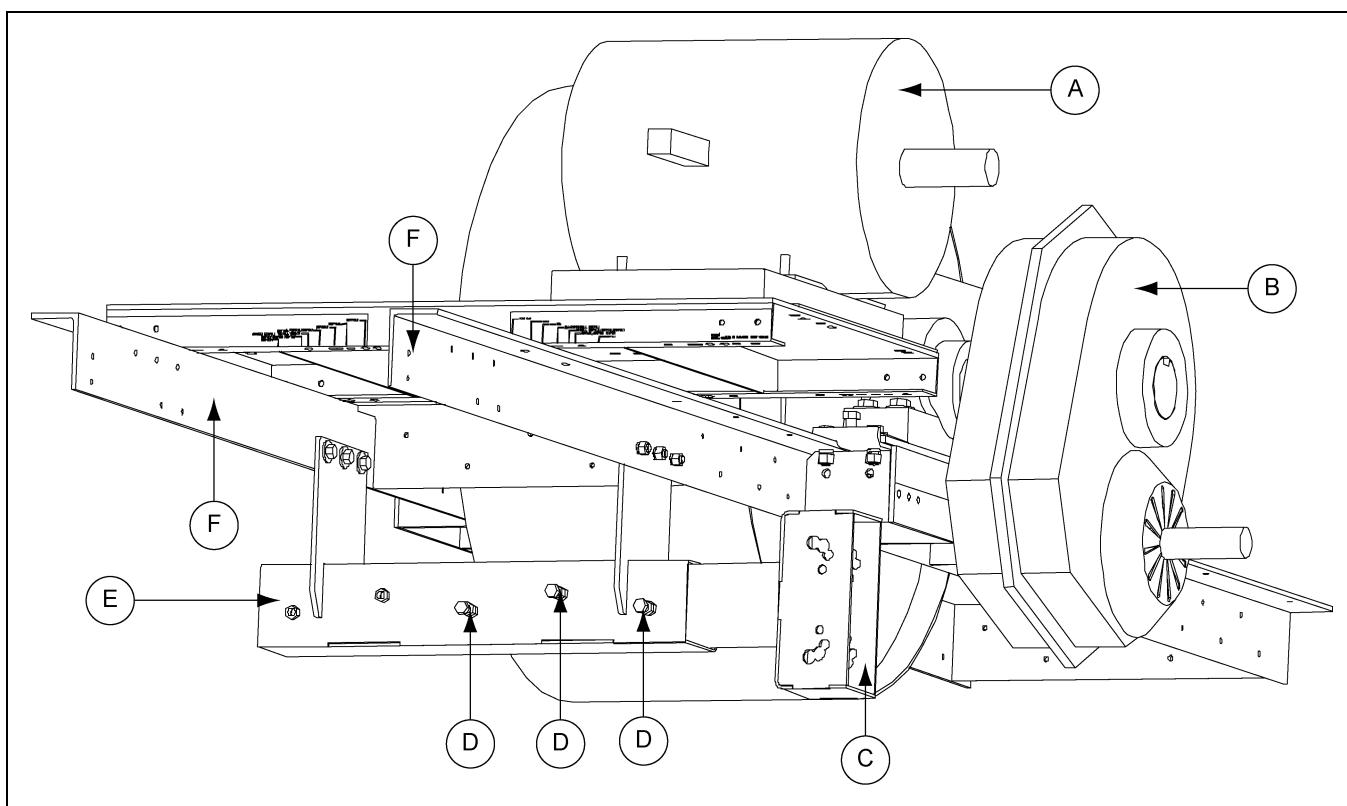
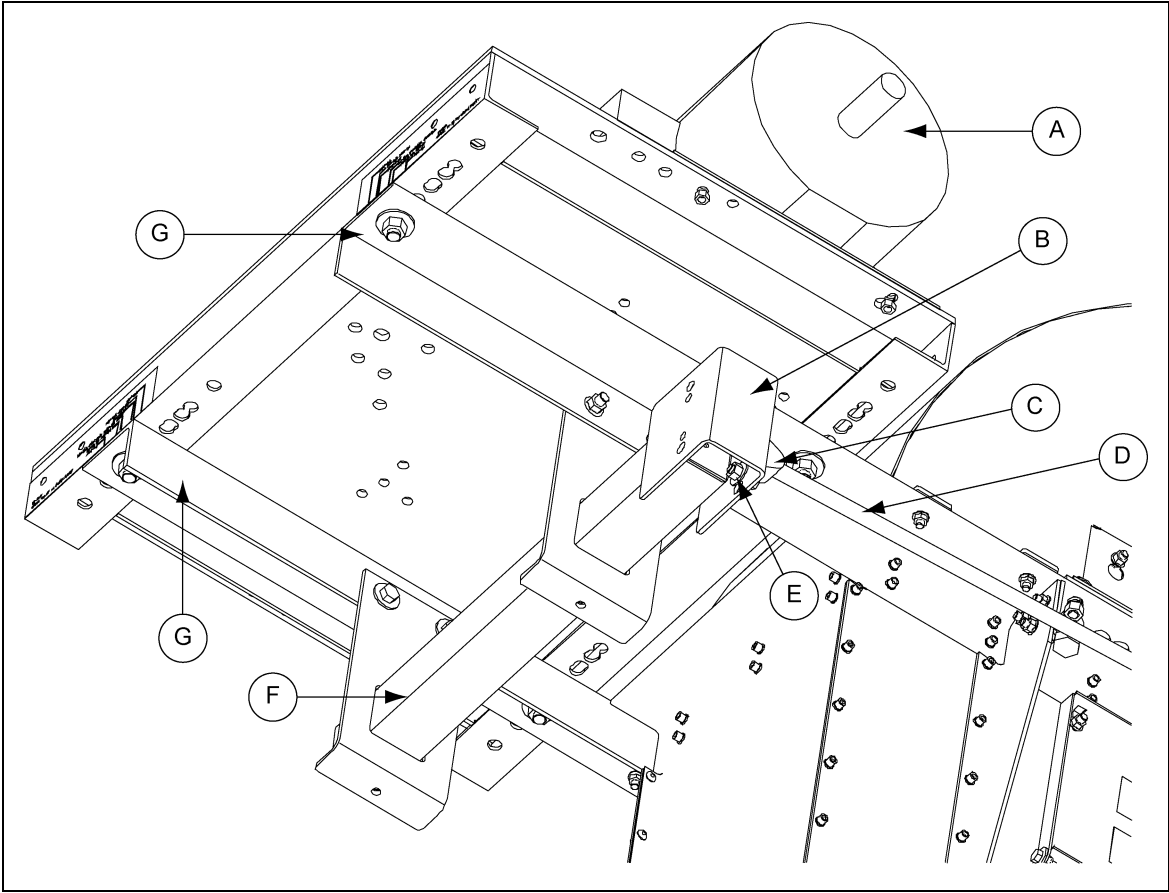

Figure 11D Torque Arm (30"-48")
Figure 11E Torque Arm (16"-24")
1. Place the torque arm tube assembly on the head section by sliding the two (2) gussets of the torque arm assembly between the head bearing angles.
3. Attach with the proper hardware. *(See Figure 11D below and Figure 11E on Page 38.)*